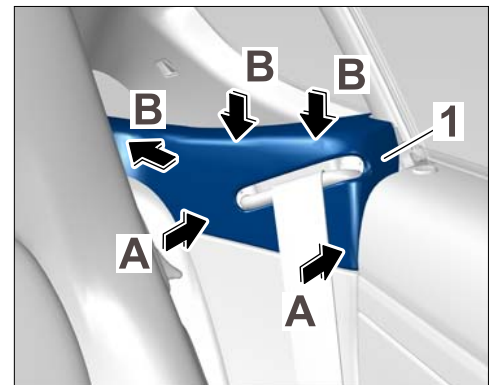

Figure 53
10.4.5 Insert belt strap guide ⇒ *Figure 53 -1-* into the mountings ⇒ *Figure 53 -B-* and clip it in ⇒ *Figure 53 -A-*.